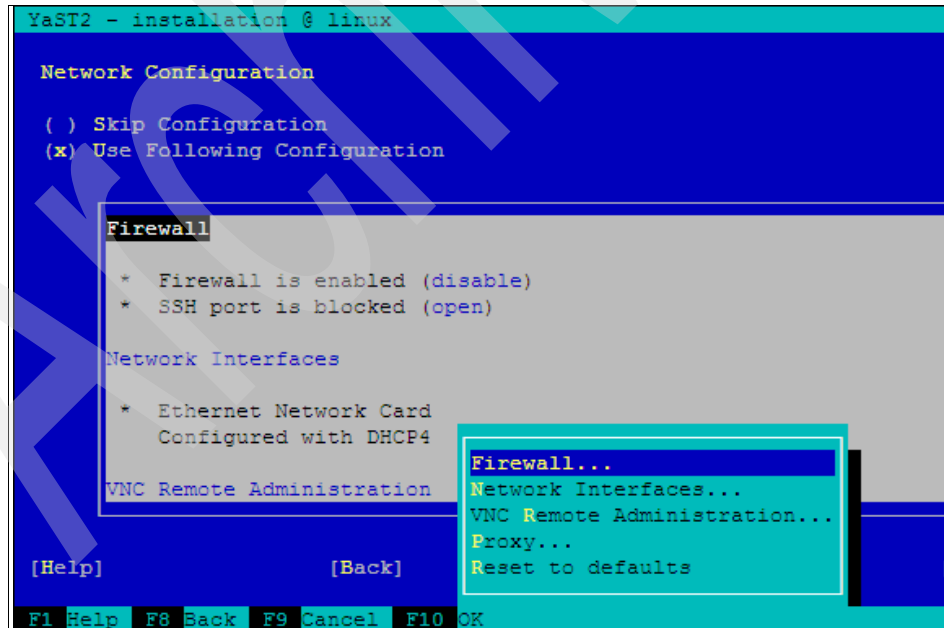

Figure 9-29 Select firewall
- Select **Firewall** as shown in Figure 9-29.